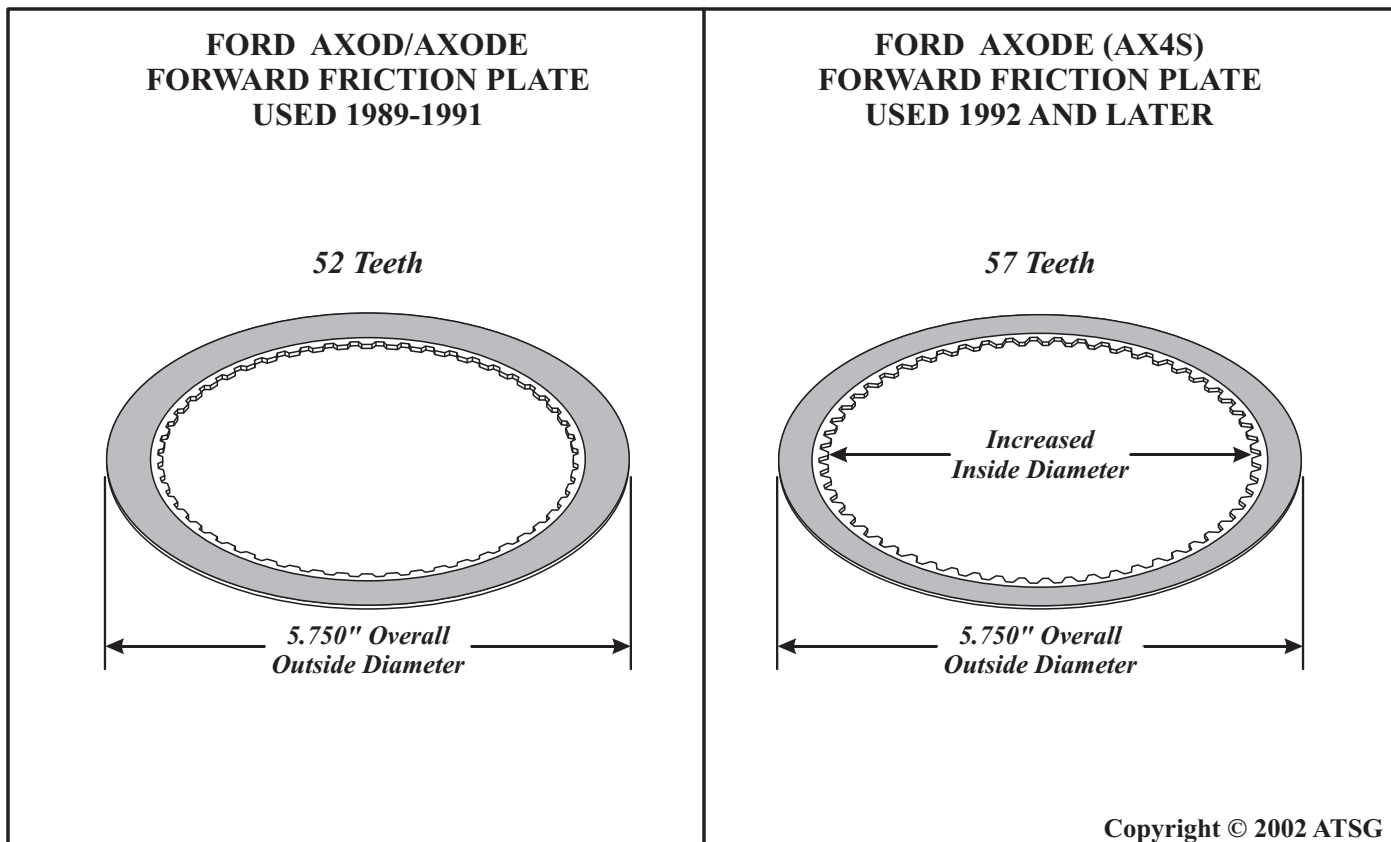

Figure 58
- (2) **FORWARD CLUTCH FRICTION PLATES** - Have an increased amount of teeth to 57 Teeth from the previous 52 Teeth, to accommodate the increased diameter of the sprag outer race, as shown in Figure 58.